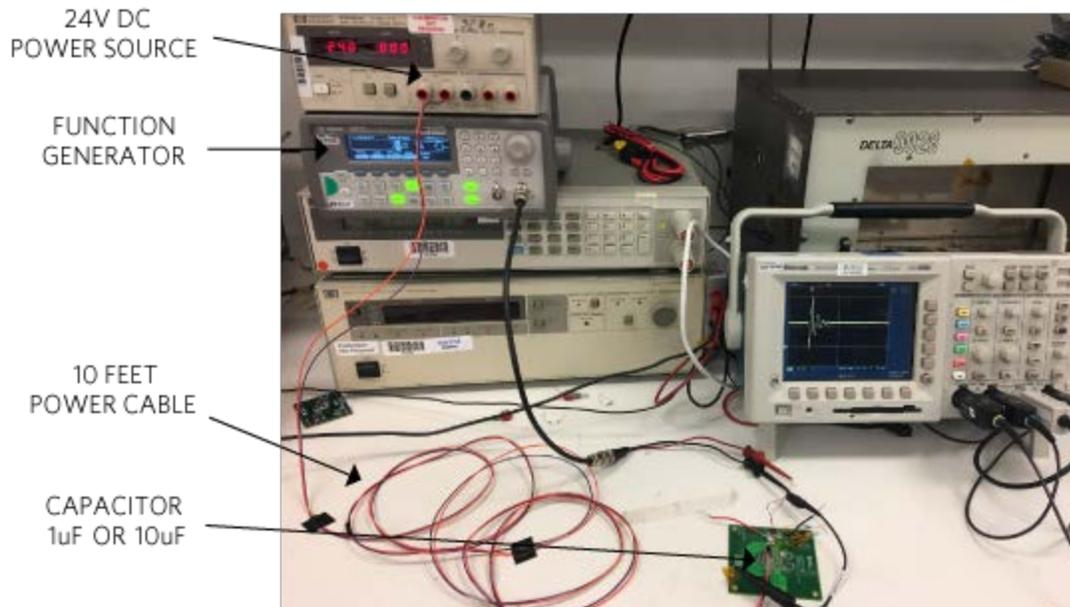

Figure 3. Cable ringing test setup.
**Figure 3** depicts a lab setup to demonstrate cable ringing. A 24V DC power source is used to emulate a 24V DC battery from a truck. A 10-foot cable connects the power source to a ceramic capacitor (either 1µF or 10µF) to emulate an input capacitance of a fleet tracking device.